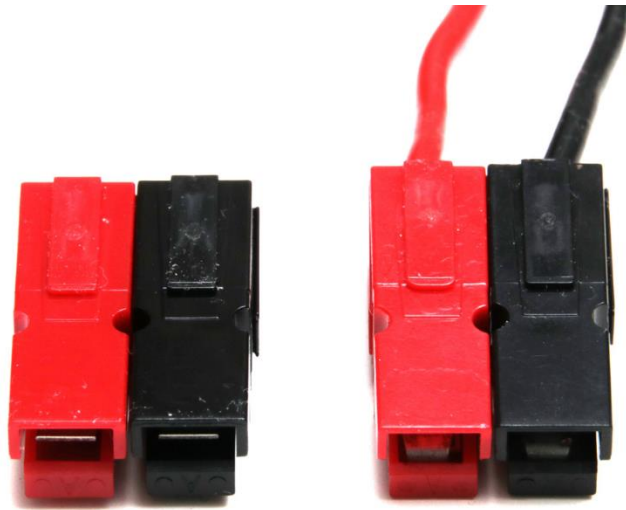

Figure 13. Proper Anderson Powerpole polarity to match tunnel wiring
- To interface with the PCC, wires should be terminated with Anderson Powerpole connectors, PP15-45 (a red and a black for positive and negative, respectively). See Figure 13 for correct polarity. Incorrect polarity must be corrected before testing.
- Teams are expected to provide their own Powerpole connectors of an appropriate size—15 amperes (A), 30 A, or 45 A—that are specified to handle wire gauges from 10–20 American wire gauge. Each team can choose the wire size it wants to use in this range as long as the appropriate current-carrying capacities are taken into consideration. All three pin sizes fit into the same housing (PP15-45), as stated previously.